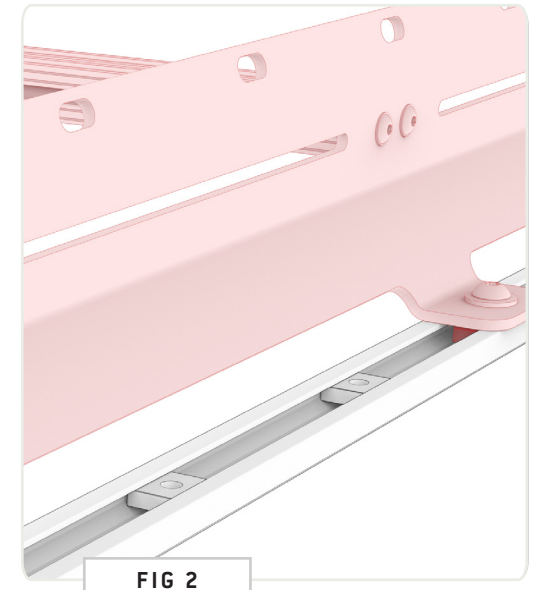

FIG 2
PRO-TIP: If you're installing a side ladder, put two (2) extra rail nuts in on the driver side (**FIG 2**).